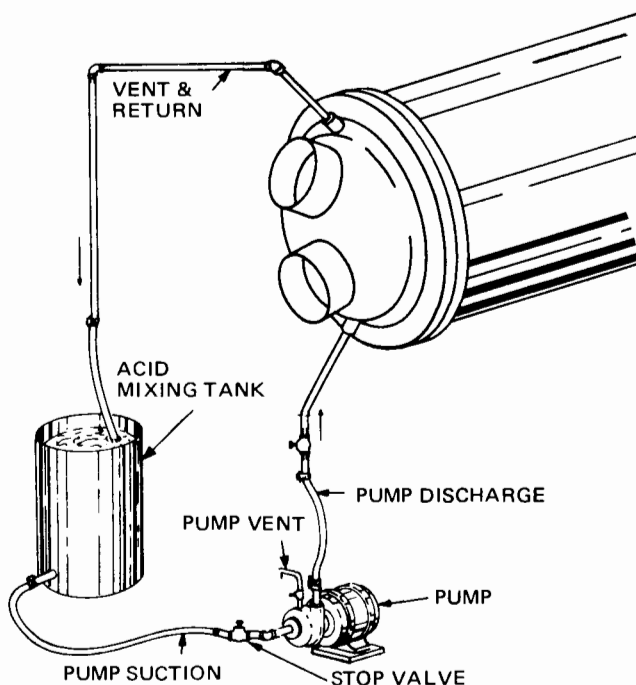

FIG. 23 — ACID CLEANING OF CONDENSER TUBES
Acid Cleaning of Tubes (Refer to Figs. 23 and 24.)
Figs. 23 and 24 show the material and connections required for acid cleaning of condenser and cooler tubes.
3. Heat this solution by any convenient method; such as, a steam pipe or nozzle opened into the acid mixing tank (Fig. 23 or 24) to 160°F to 180°F and circulate this solution for one hour.